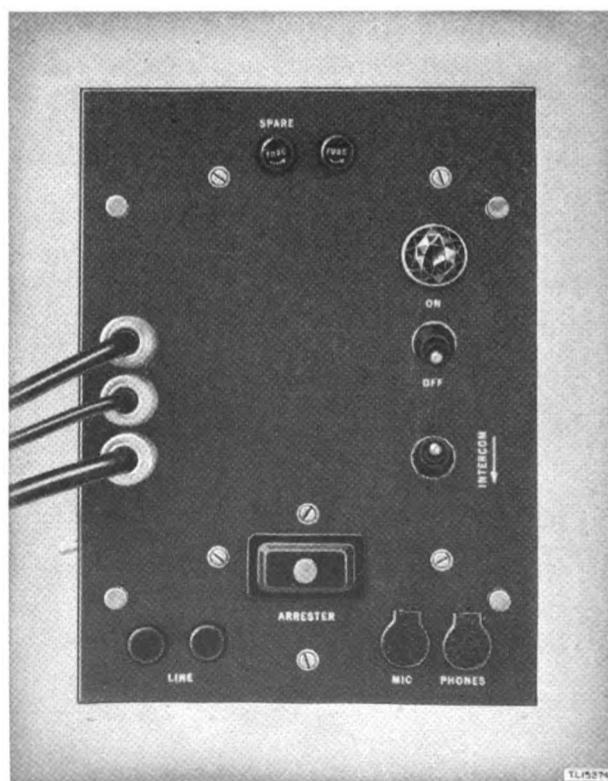
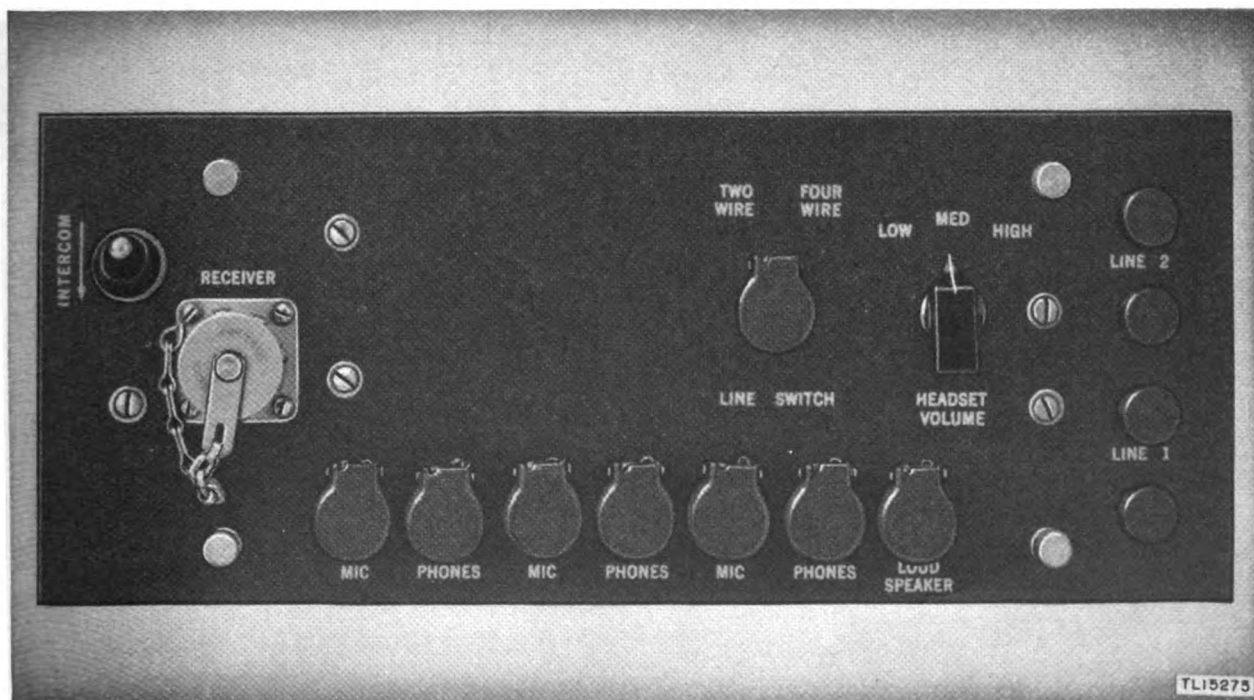

Figure 7. Control unit C-113/TRA-2, front panel.
Figure 8. Remote control unit C-112/TRA-2, front panel.
- a. GENERAL For all applications set power switch to ON position; pilot lamp should light. Handset TS-15() or H-23()/U furnished with Radio Transmitter T-14()/TRC-1 is plugged into the jacks at the lower right-hand corner of Control Unit C-113/TRA-2 (fig. 7). Refer to figure 8 for front panel of Remote Control Unit C-112/TRA-2. Facilities are available for plugging in three sets of headsets and microphones. Either Chest Unit H-19()/U or Lip Micro-